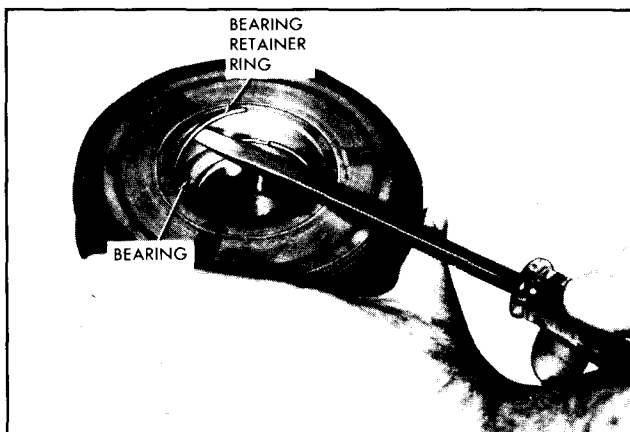

Figure 52—Removing Pulley and Bearing Retainer Ring
3. Remove pulley bearing retainer ring with a small screwdriver or pointed tool (figure 52).